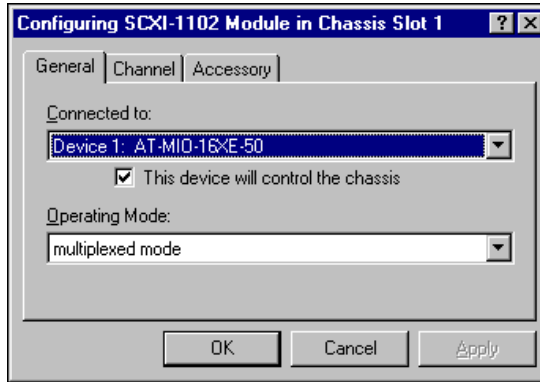
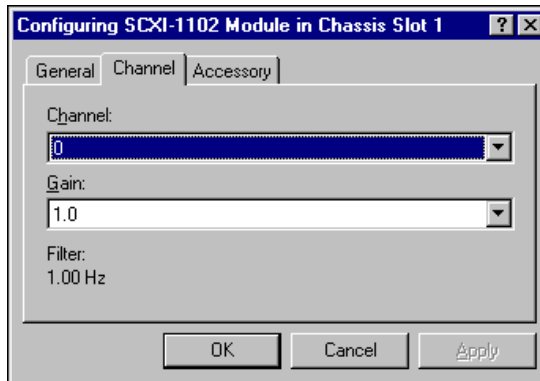

Figure 5. SCXI Module General Tab
Figure 6. SCXI Module Channel Tab
- Click the **General** tab shown in Figure 5 and the **Channel** tab shown in Figure 6. All items on both the **General** and **Channel** tabs should have defaulted to the correct settings. If the default settings are incorrect or incomplete, change them as needed as shown in Figure 5 and 6.
10. Configure the module as described in Configure the System and shown in Figures 5, 6, and 7.